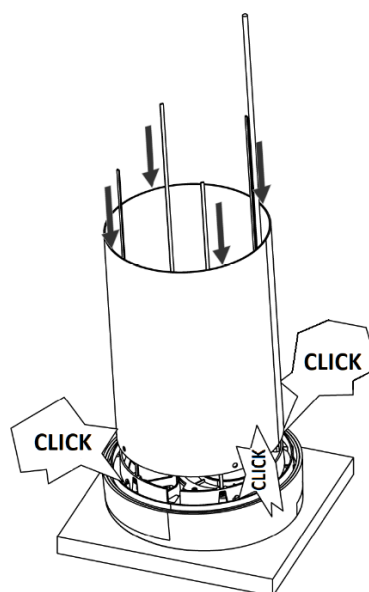

Figure 11 - Preparation of outside hood with Ø250 mm tube
3. Take the Ø250 mm tube (4) - holes facing downwards - then guide it outside the strips and the cable down toward the inside of the hood. Rotate the tube so the holes meet the spring catches on the hood and click the tube on. See Figure 11 below.